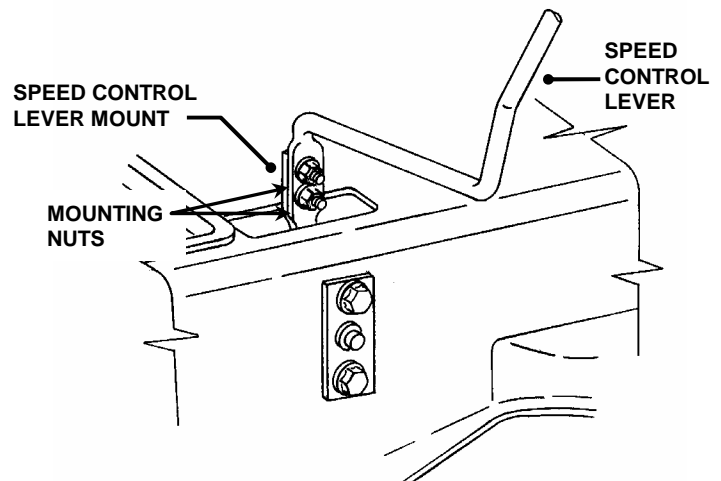

FIGURE 4.15
3. Locate speed control lever mount behind right rear tire. See Figure 4.15.